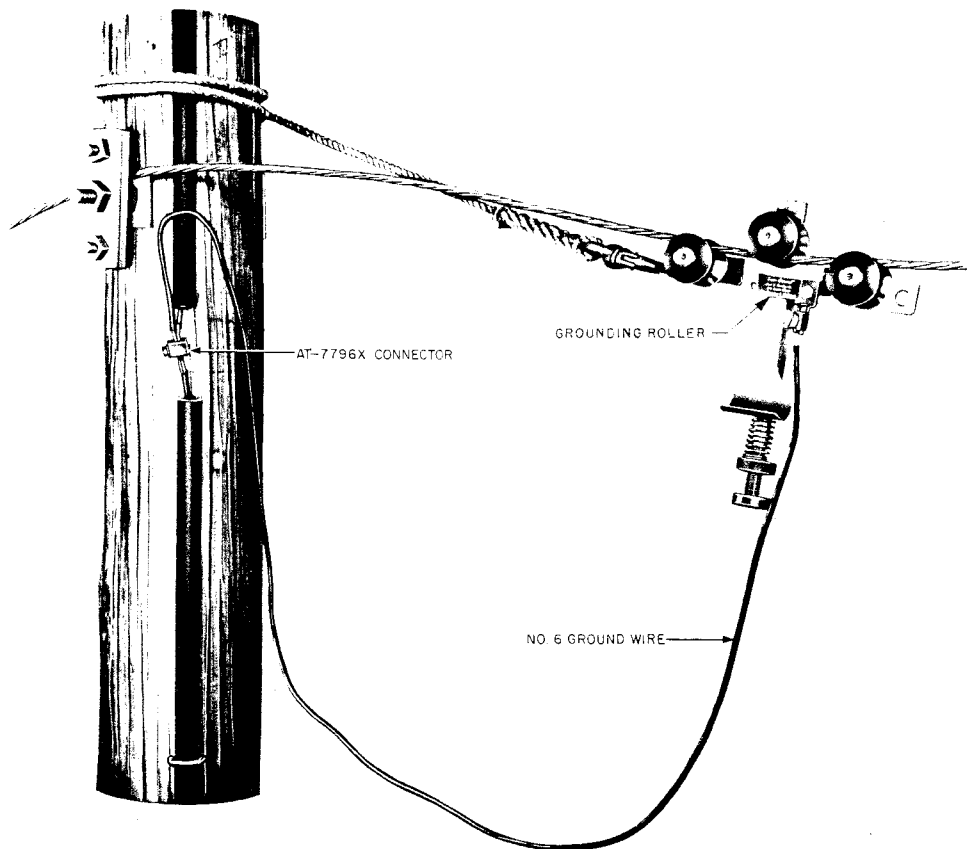

Fig. 4 — Strand Installed in Grounding Roller —
4.01 When strand is placed from a stationary reel, connection to a low-impedance ground may be made by using a B Grounding Roller as shown in Fig. 4. The description and use of the B Grounding Roller is covered in Section 081-410-106.